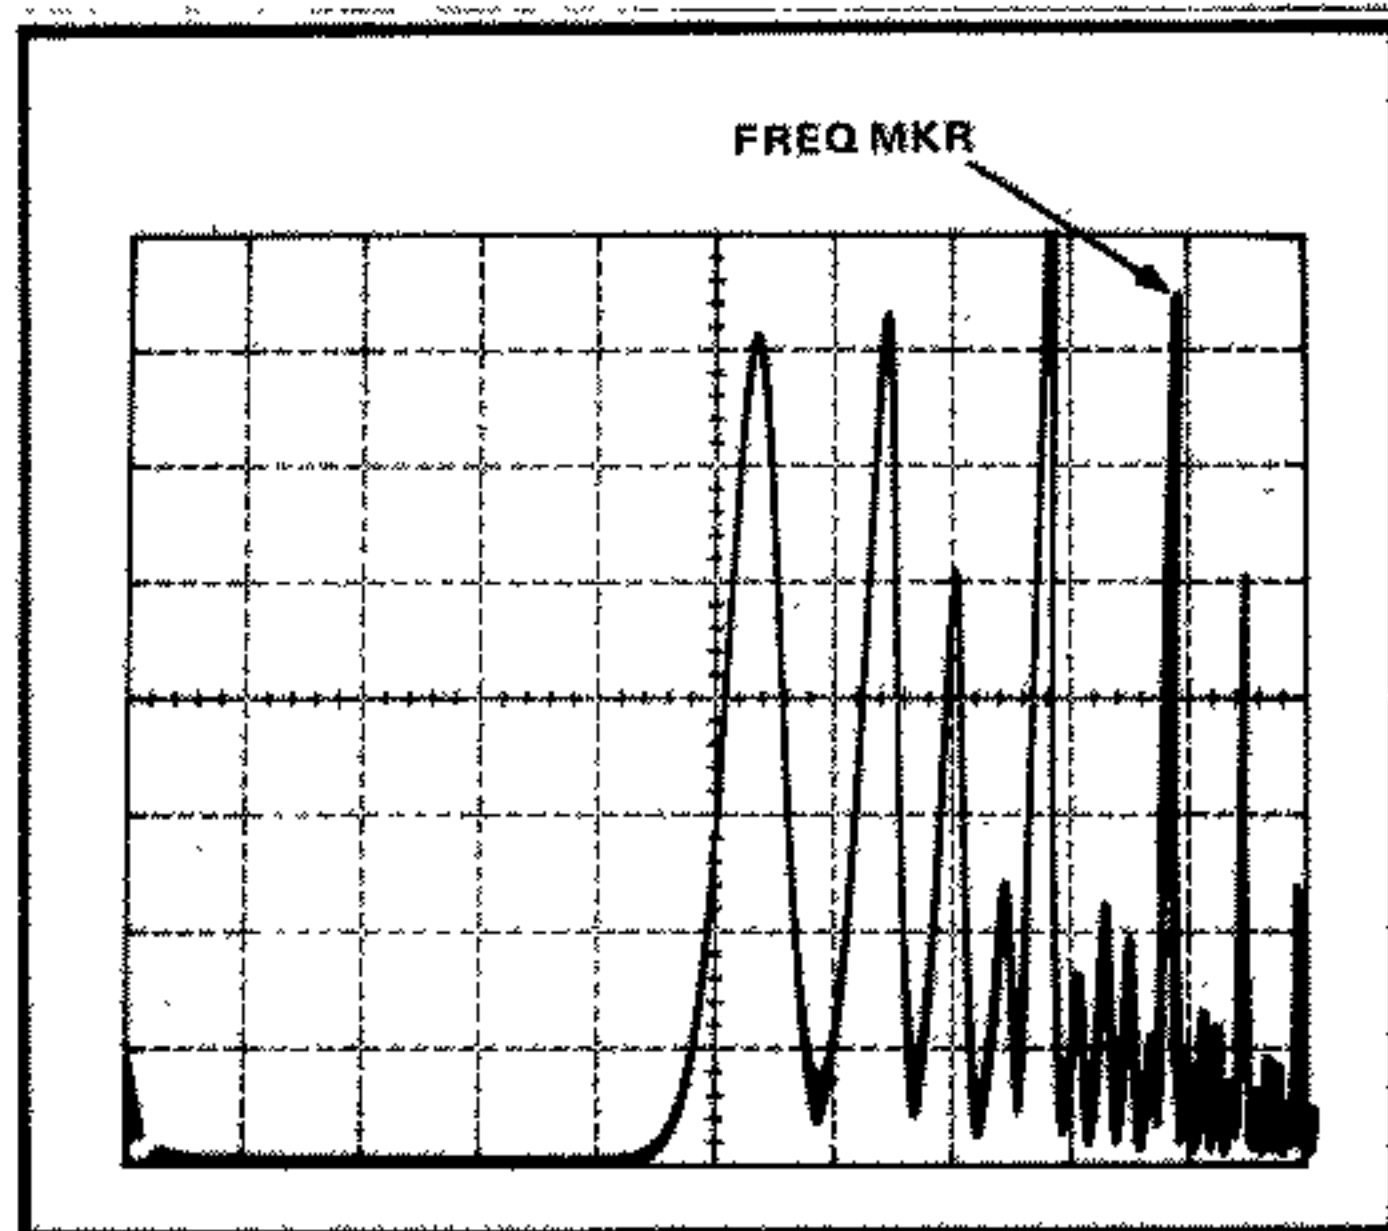

Fig. 3-5. 5 kHz FREQ COMB showing the location of the frequency markers.
2. Switch the SPAN/DIV to LOG. Display should resemble the illustration in Fig. 3-5.